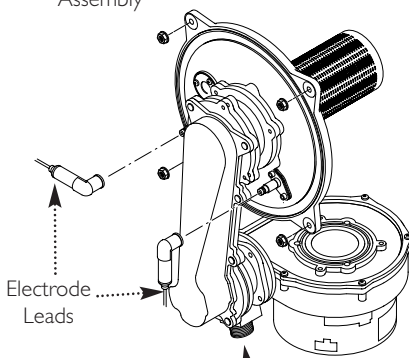

Fig. 76
12. Carefully draw the fan, collector and cover assembly forward, being careful to retain the injector in the venturi (Figs. 76 & 77).